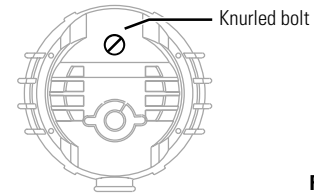

Figure 1
2. Loosen the knurled knob on the back of the lamp housing, see Figure 1.